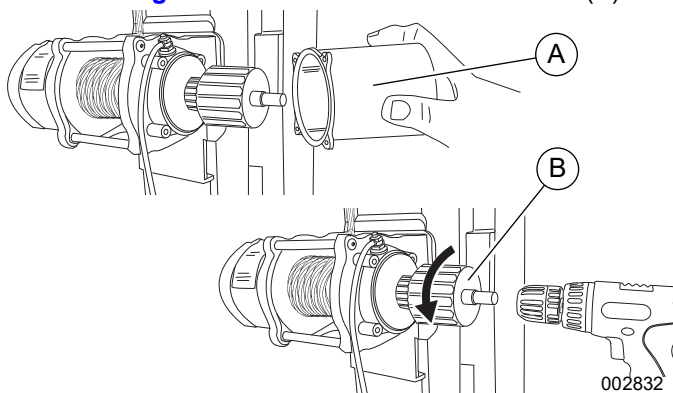

Figure 3-51. Manually Lowering the Mast
1. See **Figure 3-51**. Remove the motor cover (A).